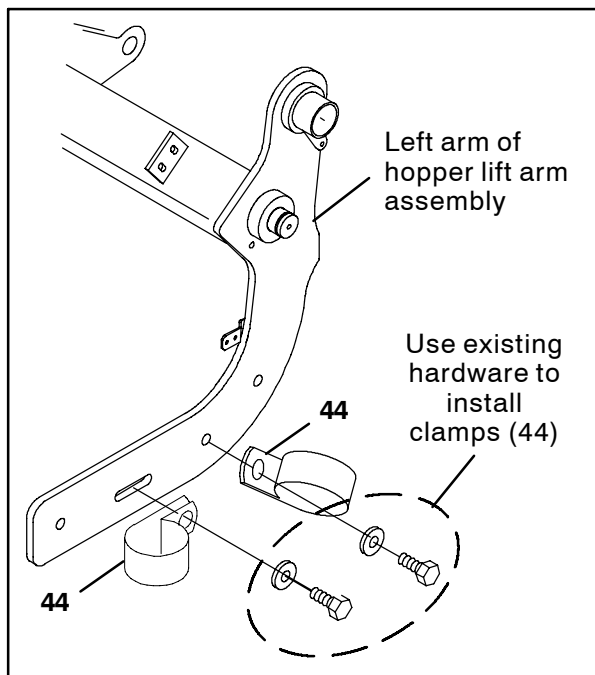

FIG. 8
29. Install the two clamps (44) onto hydraulic hoses (38) and (39) coming from the left side brush and use existing hardware on the hopper lift arm to install the two clamps (44) onto the left arm of the hopper lift arm. Refer to Fig. 8.
30. Use cable ties (45) to secure the hydraulic hoses away from moving parts.
32. Use four hex wood screws (31) to install the hub (30) onto the brush. Refer to Fig. 8.
33. Use the side brush clip (32) to install the brush onto the left side brush assembly. Refer to Fig. 8.